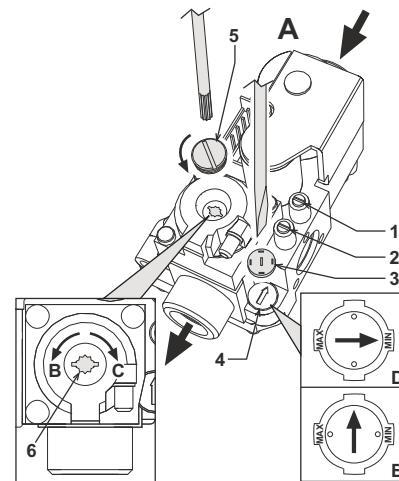

fig. 17 - Pressure adjustment
On PEGASUS D boilers, the firebox heating power and therefore the heat output delivered to the heating water can only be adjusted by means of the main burner through the gas valve, (see fig. 17). The diagrams given in the section cap. 5.2 indicate the variation in heat output delivered to the water according to the change in burner operating pressure. Being able to adjust boiler output to the actual heating requirements means above all reducing heat losses, and therefore obtaining fuel saving. Also, with the variation in output, also regulated by the provisions, the boilers keep their efficiency levels and combustion characteristics practically unchanged.
- Using a small screwdriver, remove the secondary operator protection cap 5 of the gas valve of fig. 17.
- Connect a manometer to the pressure point 2 (fig. 17) located below the gas valve, and turn the boiler thermostat knob to the maximum value.
- Adjust the pressure to the required value by means of the screw 6 (fig. 17), referring to the diagrams given in section cap. 5.2.
- Remove the small protection cap 3 (fig. 17) from the gas valve. Using a small screwdriver, adjust the ignition "STEP" for the required gas (**G20-G25** position **D** fig. 17 or **G30-G31** position **E** fig. 17); then refit the cap.
- Vent the air from the gas pipes by means of the gas valve pressure point 1 (fig. 17).